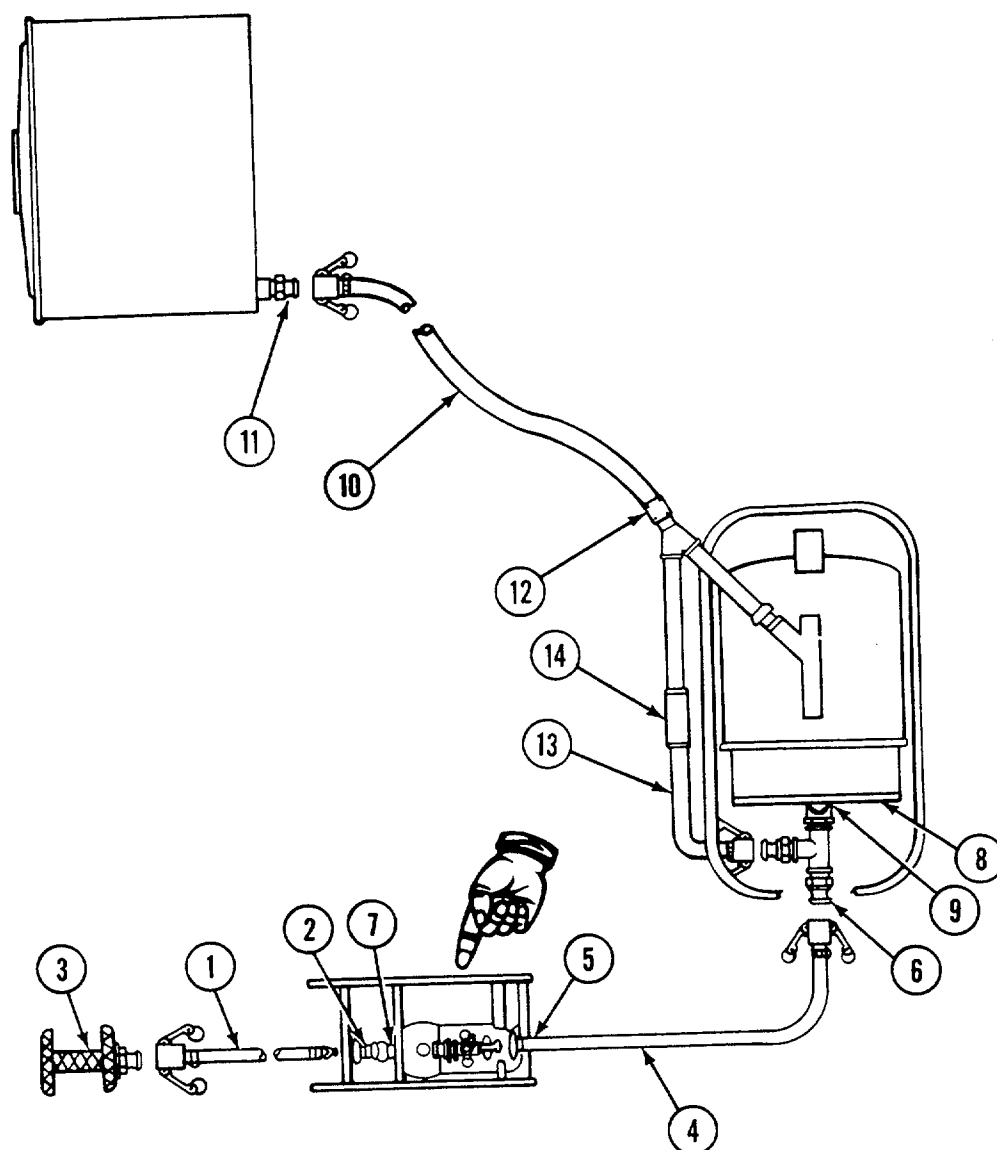

FIGURE 2-10. Water hose connection diagram.
(1) Identify bracket assembly (1) which is located on the left-hand side of the water pump assembly.
- (2) Remove two wingnuts (2) and remove bracket assembly (1).
- (3) Remove water pump (3) and locate it no more than 10 feet (3 m) from the water source.
- (4) Install bracket (1) and tighten wingnuts (2) removed in step (2).
- (5) Connect suction hose (1, FIG. 2-10) to suction inlet (2).
Ensure that water hoses (1 and 4, FIG. 2-10) do not touch or cross other water hoses, exhaust ducts, power cables, or fuel lines. Melting/damage can occur causing leaking fuel and water or electrical hazards. Death by electrocution, fire, or explosion could result.